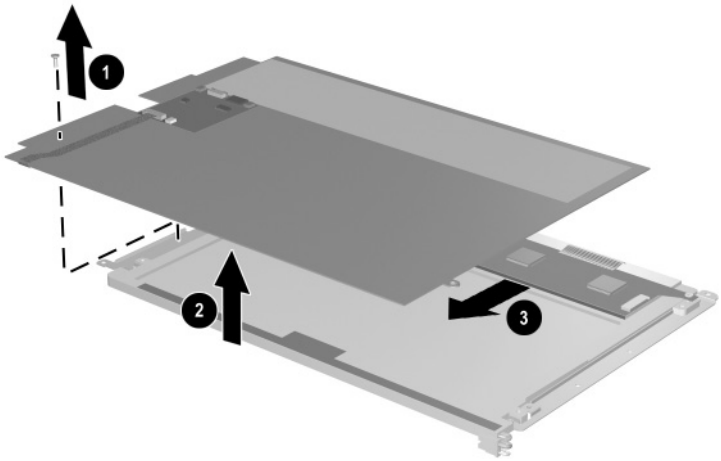

Figure 5-15. Removing the Digitizer
21. Remove the PM2.0 × 5.0 screw ❶ that secures the digitizer to the display panel assembly (Figure 5-15).
22. Lift the front edge of the digitizer ❷ and slide it out ❸ of the display panel.